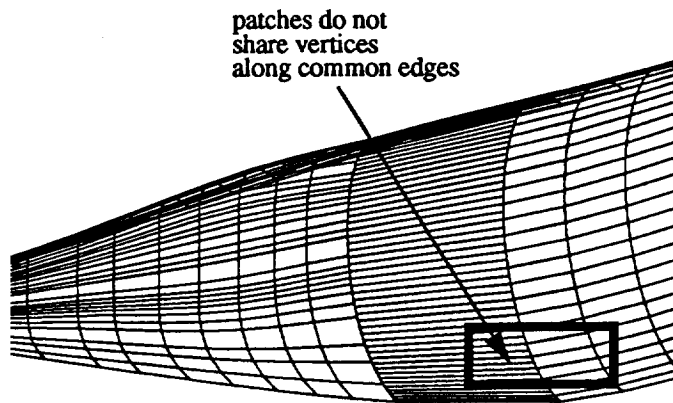

FIGURE B.2.
- Adjacent patches share vertices along common edges. (See fig. B.2.)